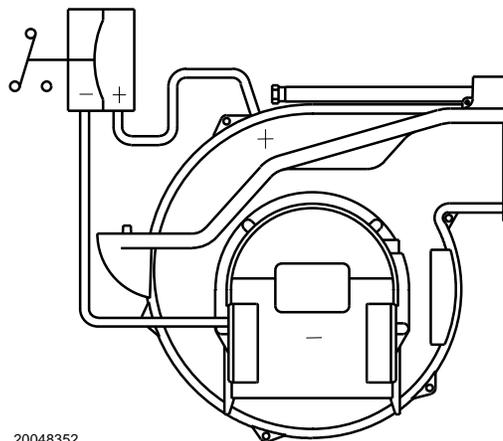

Fig. 45
- Adjust the air pressure switch to the zero position of the scale (Fig. 45).
The air pressure switch is connected in differential (Fig. 45) and is activated by both the negative pressure of the air intake and the air pressure from the fan.